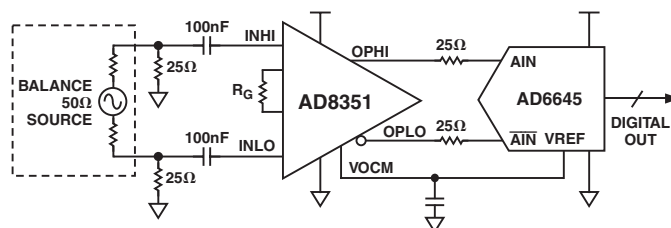

Figure 7. ADC Driving Application Using Differential Input
The circuit in Figure 7 represents a simplified front end of the AD8351 driving the AD6645, which is a 14-bit, 105 MSPS A/D converter. For optimum performance, the AD6645 and the AD8351 are driven differentially. The resistors R1 and R2 present a 50  $\Omega$  differential input impedance to the source with R3 and R4 providing isolation from the A/D input. The gain setting resistor for the AD8351 is  $R_G$ . The AD6645 presents a 1 k $\Omega$  differential load to the AD8351 and requires a 2.2 V p-p differential signal between AIN and  $\overline{\text{AIN}}$  for a full-scale output. This AD8351 circuit then provides the gain, isolation, and source matching for the AD6645. The AD8351 also provides a balanced input, not provided by the balun, to the AD6645, which is essential for second-order cancellation. The signal generator is bipolar, centered around ground. Connecting the VOCM pin (10) of the AD8351 to the VREF pin of the AD6645 sets the common-mode output voltage of the AD8351 at 2.4 V. This voltage is bypassed with a 0.1  $\mu\text{F}$  capacitor. Increasing the gain of the AD8351 will increase the system noise and thus decrease the SNR but will not significantly affect the distortion. The circuit in Figure 7 can provide SFDR performance of better than -90 dBc with a 10 MHz input and -80 dBc with a 70 MHz input at a gain of 10 dB.